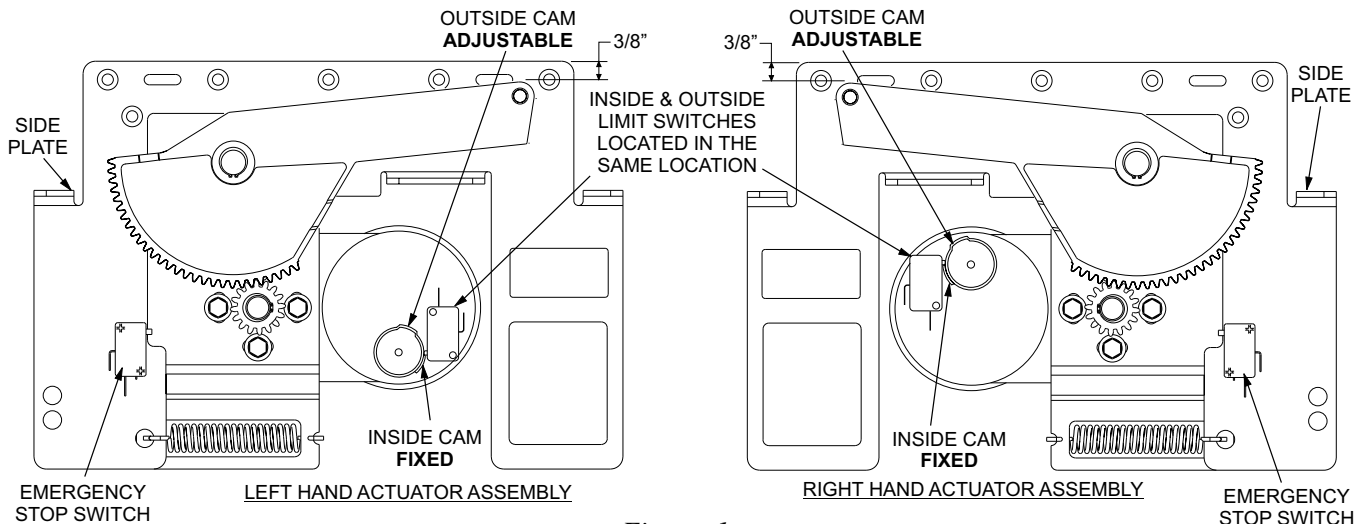

Figure 1
5. With old actuator arm in the horizontal position, slide the arm off the shaft. Refer to *Figure 1*.
- a. While the rails are not connected to the arm, lower the actuator by hand. When the top of the actuator arm is about $3/8" \pm 1/8"$ below the upper edge of the side plate, the inside limit switch should click or be actuated by the inside (fixed cam). Refer to *Figure 1*. This can also be verified by powering up the bumper controller and watching the Up/Down LED Indicators.
- b. If the inside limit switch does not click at this point, remove both actuator arms and motor access cover. Turn the motor output shaft until the inside limit switch is just actuated by the inside cam. Refer to *Figure 1* to verify proper positioning.
- c. Reinstall the actuator arm by sliding it onto the shaft while holding the top of the actuator arm $3/8"$ below the top of the side plate. Pivot the arm up and down to verify that the inside limit switch clicks at the proper place. If additional adjustment is needed, loosen the four motor attachment screws and pivot the motor as required. Refer to *Figure 1*.